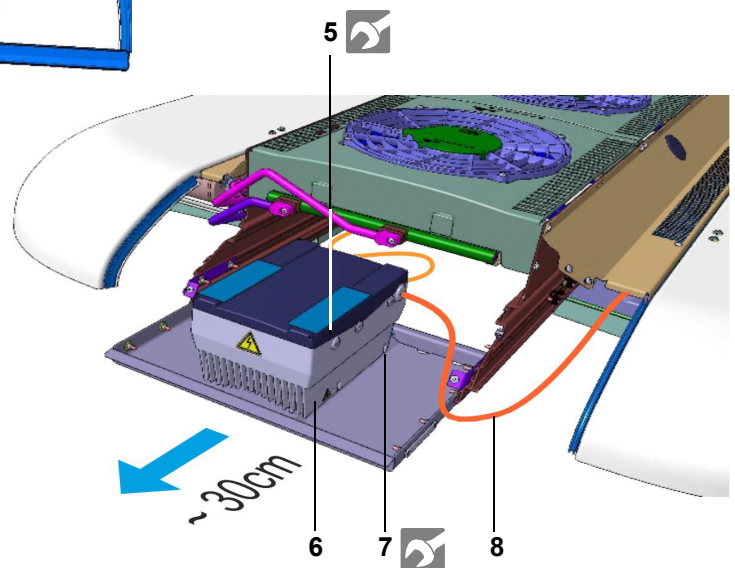

Fig. 802
- Loosen cone screw Fig. 802, Pos 7.